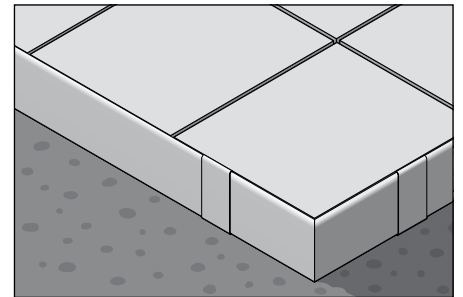

Fig. 7
Installation with self-supporting pavers on the paver support system TROBA-LEVEL with BARA-RT / BARA-RTC (Fig. 7)
4. If using the paver support system TROBA-LEVEL, the BARA-RT / BARA-RTC finishing profile covers the exposed edge of the cover assembly (Fig. 7).